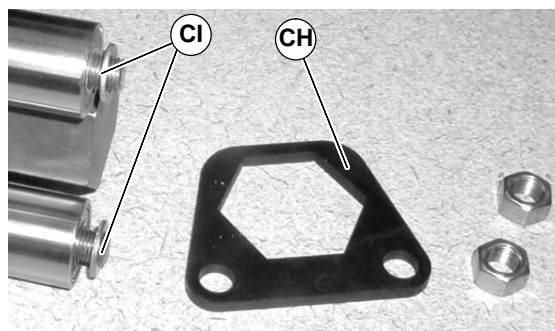

Figure 69
6. Remove support plates (CH of Figure 69) and washers (CI).